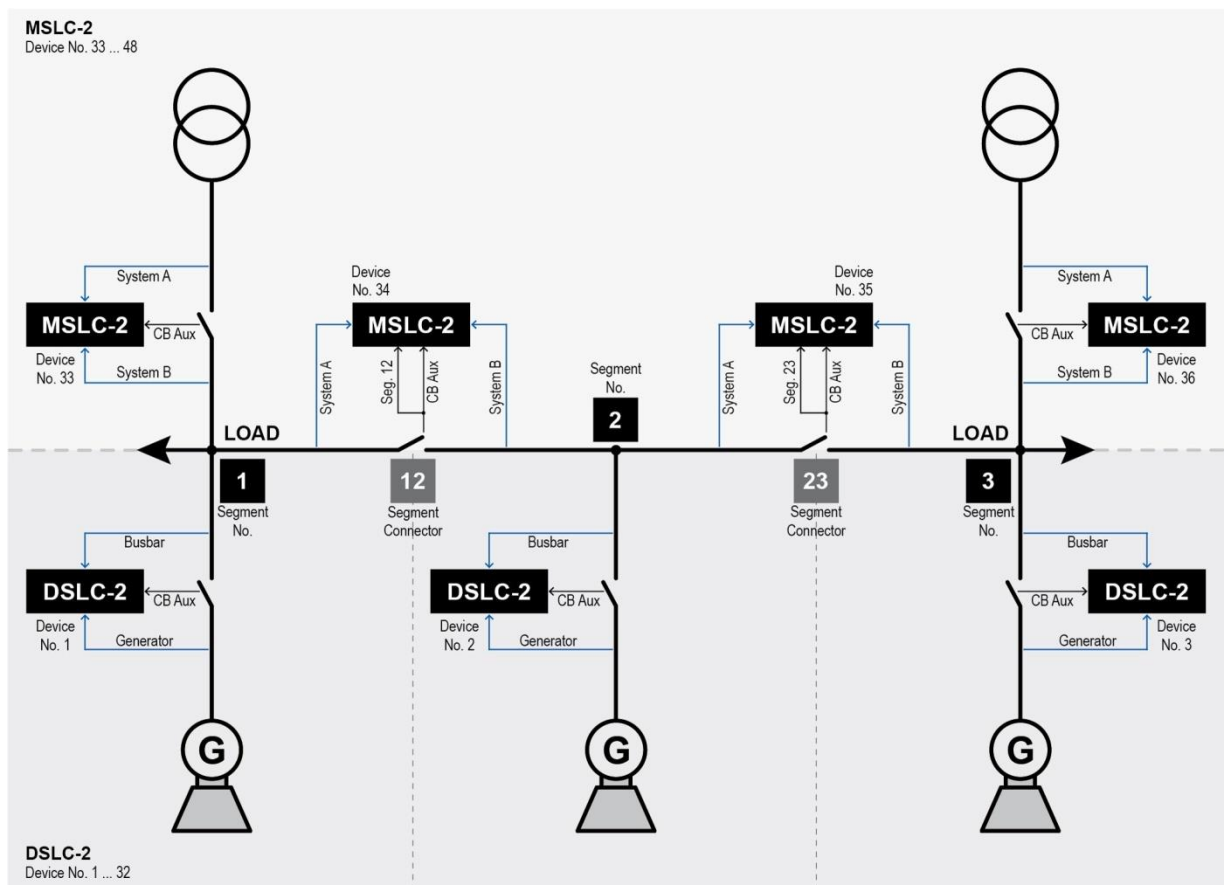

Figure 3-118: Example of an online diagram with segment numbers and segment connector feedbacks
2. Draw the measurement systems arrows between unit and bars (refer to Figure 3-118). Please consider following rules: